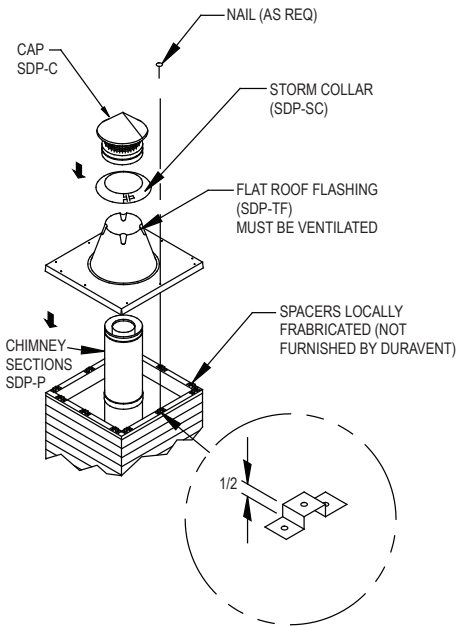

Figure 30
2. Mount Anchor Plate: Chimneys for masonry fireplaces begin with an Anchor Plate. Center the Anchor Plate on a brick or concrete base over the masonry flue opening. Seal the Anchor Plate with a high-temperature sealant, and secure with (4) 1/4-inch masonry anchors. (**Figure 30**). Be sure it is level. The Anchor Plate is available in two styles. One contains the perforated Starter Section, which is used